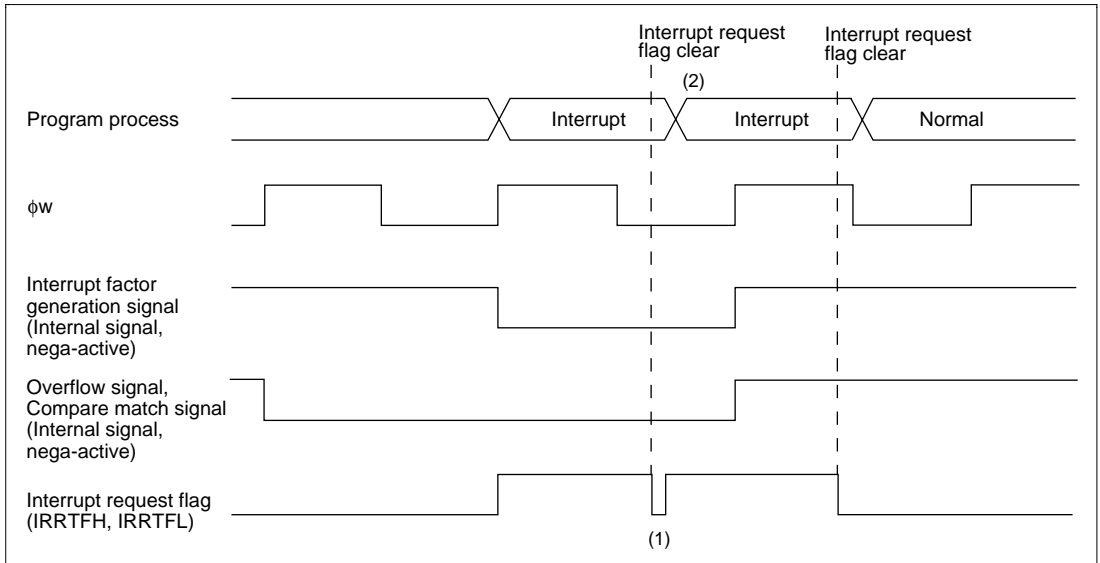

Figure 9.7 Clear Interrupt Request Flag when Interrupt Factor Generation Signal is Valid
When $\phi w/4$ is selected as the internal clock, “Interrupt factor generation signal” will be operated with ϕw and the signal will be outputted with ϕw width. And, “Overflow signal” and “Compare match signal” are controlled with 2 cycles of ϕw signals. Those signals are outputted with 2 cycles width of ϕw (figure 9.7)
In active (high-speed, medium-speed) mode, even if you cleared interrupt request flag during the term of validity of “Interrupt factor generation signal”, same interrupt request flag is set. (figure 9.7 (1)) And, you cannot be cleared timer overflow flag and compare match flag during the term of validity of “Overflow signal” and “Compare match signal”.
For interrupt request flag is set right after interrupt request is cleared, interrupt process to one time timer FH, timer FL interrupt might be repeated. (figure 9.7 (2)) Therefore, to definitely clear interrupt request flag in active (high-speed, medium-speed) mode, clear should be processed after the time that calculated with below (1) formula. And, to definitely clear timer overflow flag and compare match flag, clear should be processed after read timer control status register F (TCSRFB) after the time that calculated with below (1) formula. For ST of (1) formula, please substitute the longest number of execution states in used instruction. (10 states of RTE instruction when MULXU, DIVXU instruction is not used, 14 states when MULXU, DIVXU instruction is used) In subactive mode, there are not limitation for interrupt request flag, timer overflow flag, and compare match flag clear.